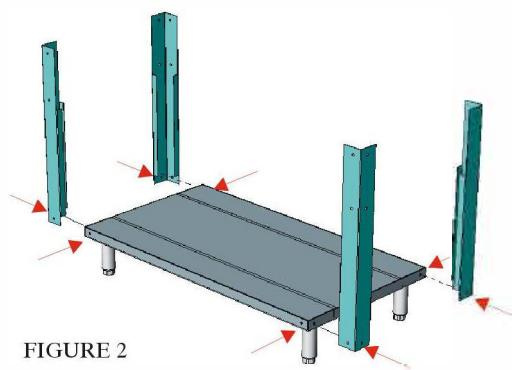

FIGURE 2
- B. Turn bottom over. Install corner posts as shown in figure 2. Use $\frac{1}{4}$ -20 x 3/4" Truss Head screws.